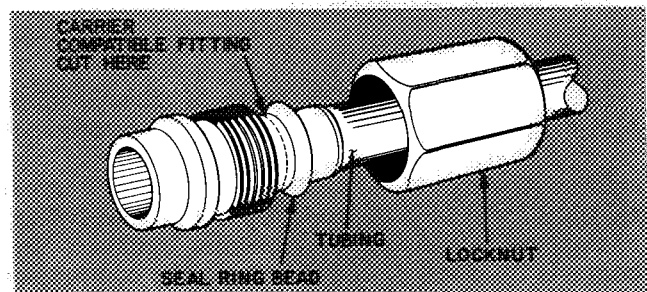

Fig. 34 – Carrier Compatible Fitting
**LEAKING MECHANICAL CONNECTION** – Frontseat outdoor section service valves and relieve refrigerant pressure in tubing. Back locknut off Carrier Compatible Fitting onto tube. Cut fitting between threads and seal ring bead shown in Fig. 34. Remove tubing section remaining in threaded portion of fitting. Discard locknut.